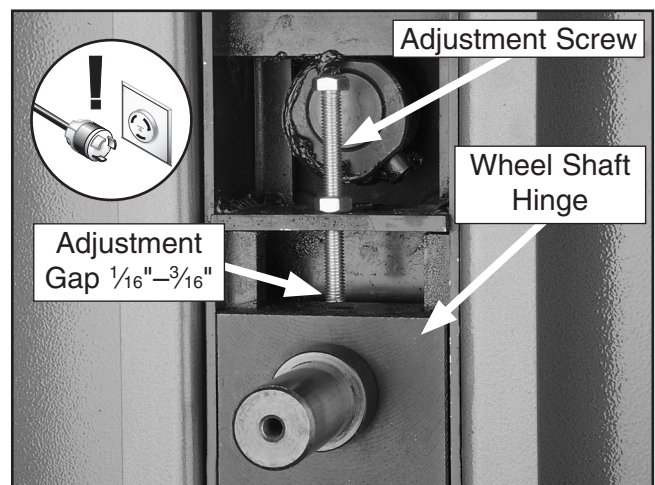

Figure 64. Tension lever adjustment components (top wheel removed for clarity).
4. Turn the adjustment screw shown in **Figure 64** until the gap between the screw and the wheel shaft hinge is $\frac{1}{16}$ "– $\frac{3}{16}$ ".